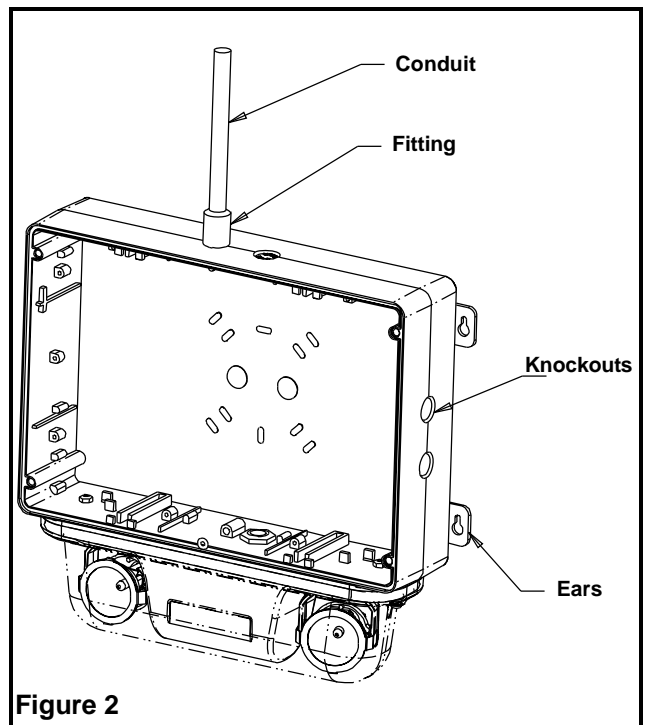

Figure 2
- Attach the unit to the wall through the ears located on each side of the unit. (See figure 2). (4 screws not provided)